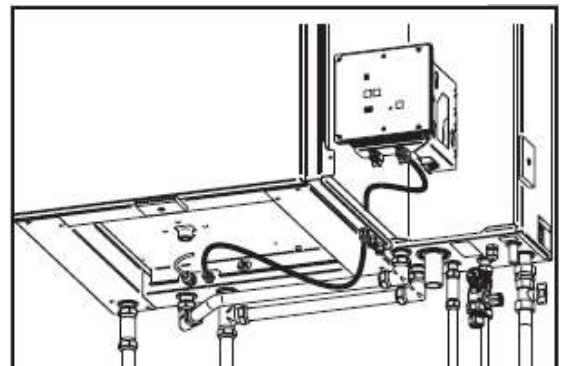

fig 5b
- Connect the data cable to the “data” connector (below - right-hand connector – see fig 5a and fig 5b)